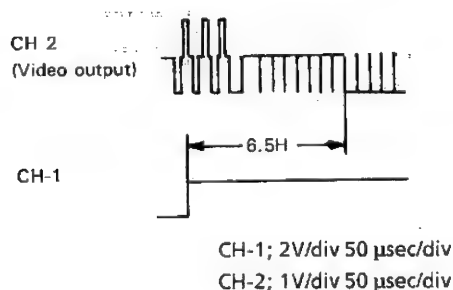

Figure 2-2.
3. Adjust R740 (phase generator MM control) so that the waveform on the oscilloscope screen be as shown in Figure 2-2.